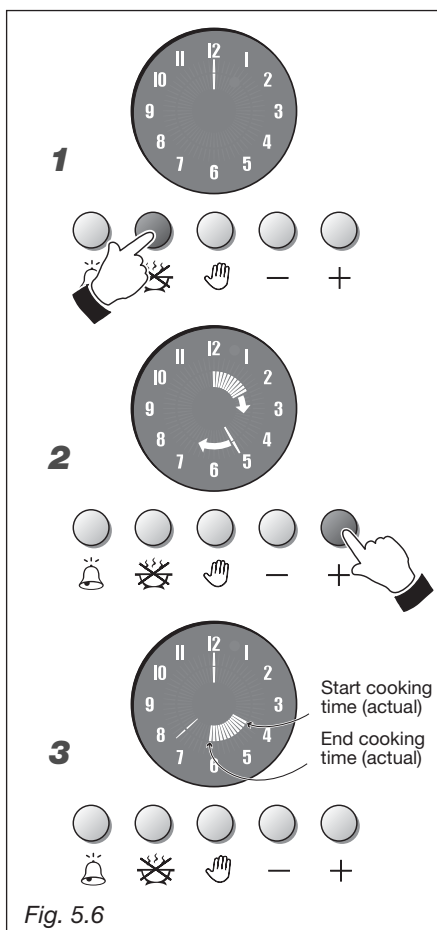

Fig. 5.6
SEMI-AUTOMATIC COOKING (fig. 5.6)
1. Fig. 5.6 - To set the cooking time (max 6 hours) press button , the electronic clock luminous hands go out and a luminous hand lights up on number 12.
2. Fig. 5.6 - Within 7 seconds press  button and another luminous hand (like seconds and minutes) lights up on the display. Every increasing (additional inner hand) indicates one minute. Moreover every increasing of the 12 minutes is indicated by an inner luminous hand (5 luminous hands indicate one hour). To decrease the required time press  button.
3. Fig. 5.6 - After 7 seconds the inner luminous hands turn automatically on the time of the day indicating the remaining cooking time.